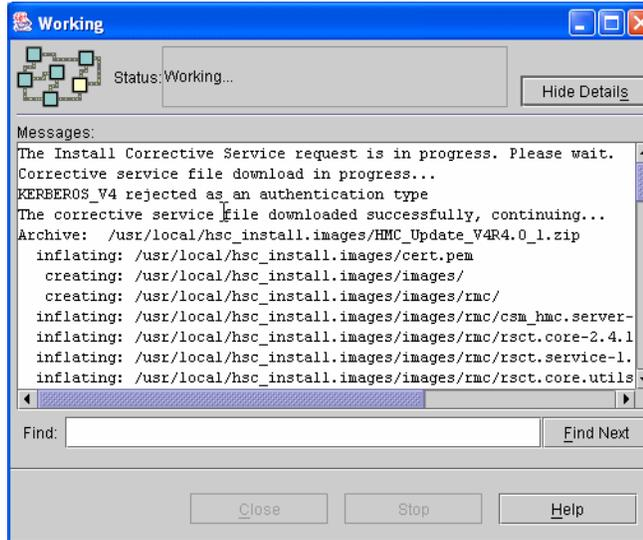

Figure 14-10 Install of HMC update via FTP server
5. The HMC working panel appears (Figure 14-10) showing the status of the install process. The HMC update data is inflated and then installed on the HMC.